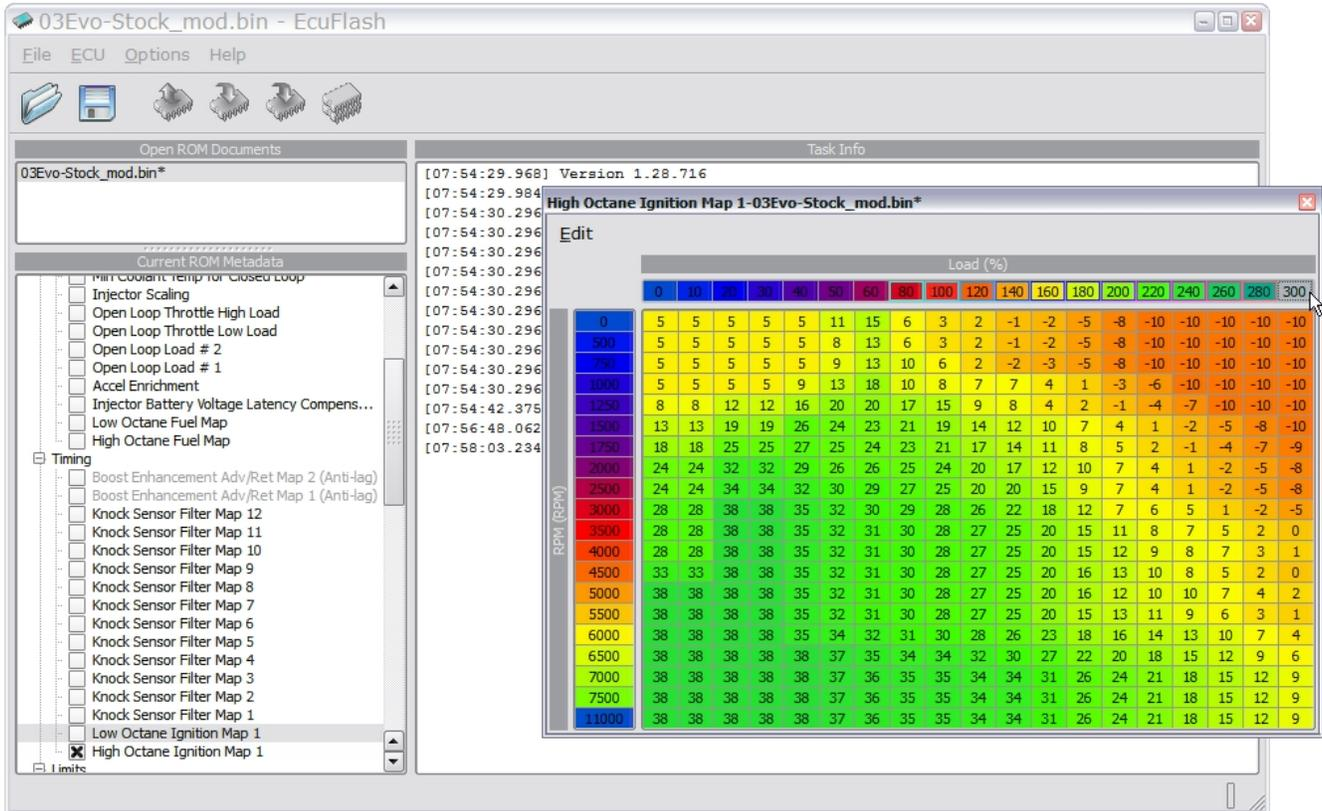

Figure 10, modified 2003 Evolution VIII ECU High Octane Ignition Map,
c.) Add the 280 and 300 column headers (Figure 10)
The map should now have Load percentage values as shown in figure 10.
Now that the column headers have been changed to reflect the new Load (%) scale, all of the columns need to be moved back under the correct Load (%) column. The table as it sits right now (figure 10) has the values for the 80% column sitting under the 100% header and the 100% to 260% columns are sitting under the 140% to 300% headers.